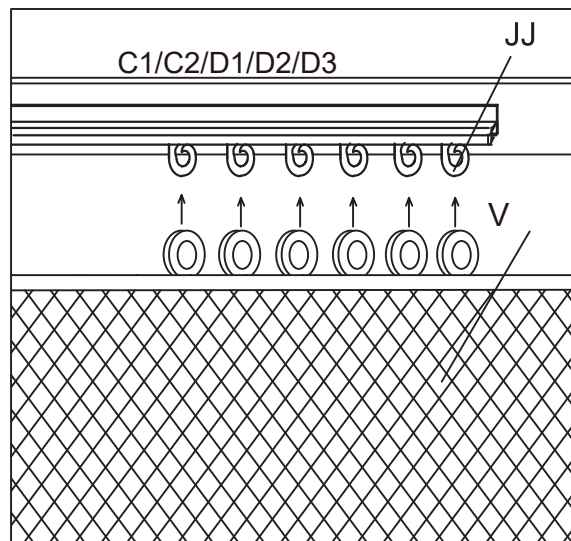

Figure 18-1
18.1: Hang the Mosquito Net (V) to the Mosquito Net Hooks (JJ). Hanging on the inner side of the track, Repeat for all sides. See Figure 18-1 .